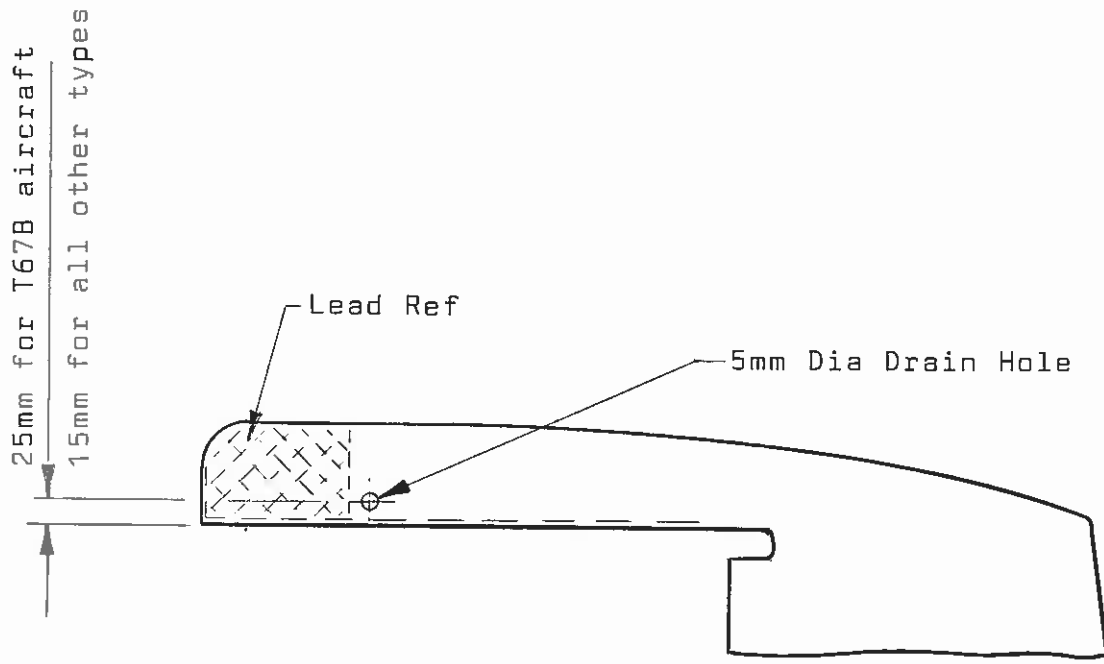

Fig 1
3. Ref. Fig 1 drill 5mm dia hole in the lower skin of the horn in the hollow portion as close to the lead balance as possible.